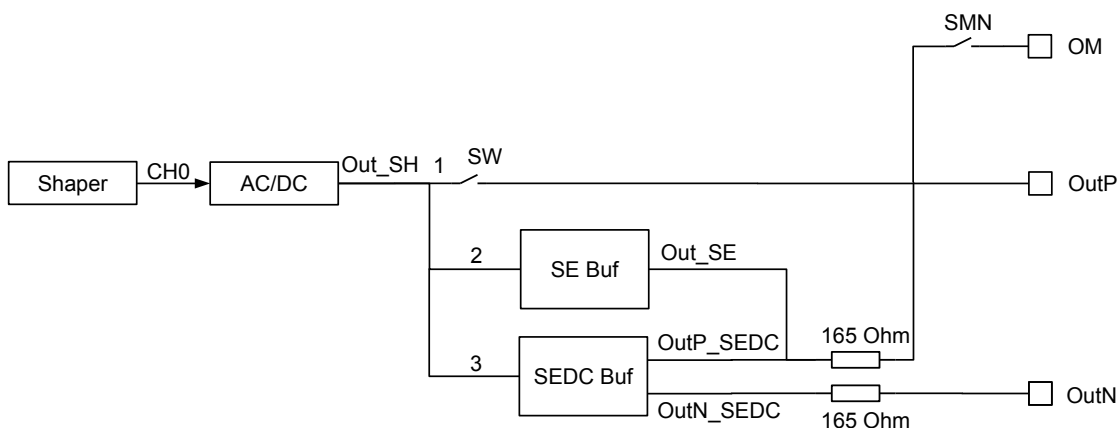

Fig. 12. Depiction of buffer control configuration
With the addition of single-ended-to-differential conversion (SEDC) buffer (starting with LArASIC P4) in addition to the pre-existing single-ended (SE) buffer, the buffer control configuration mechanism is as depicted in Fig. 12. and the corresponding three possible scenarios are shown in Table 7.